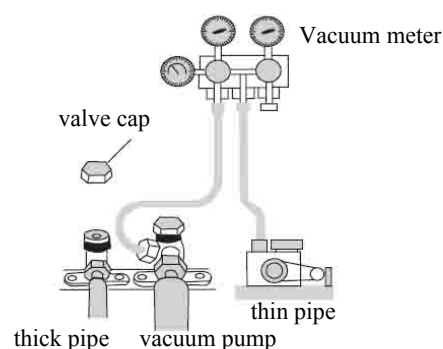

Fig 11-10
- If condition allows, it is available to evacuate air inside the unit from the gas valve core with a vacuum pump. (Fig.11-10).